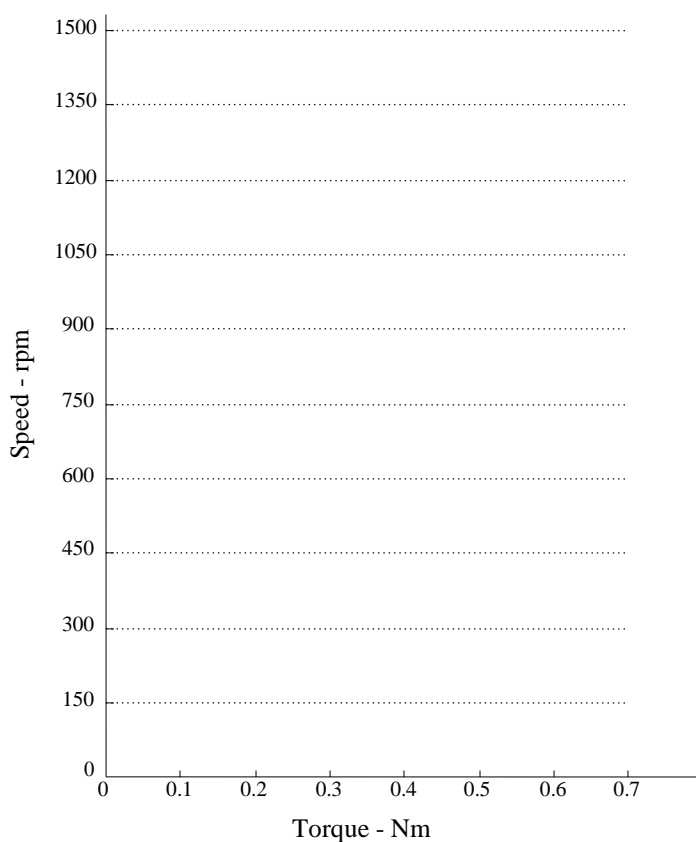

Figure 6
9. Use the information recorded in table 3 to complete the graph of figure 6 for the shaded pole motor.